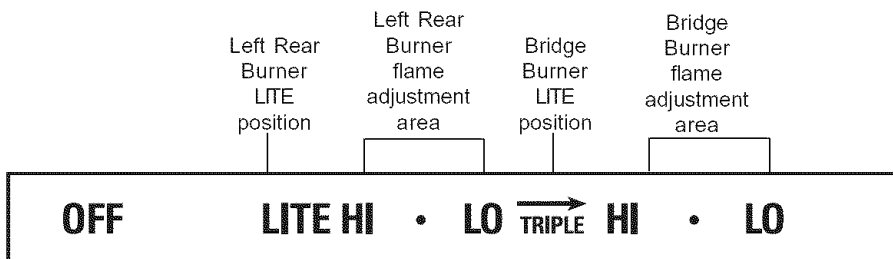

Fig. 3 - Bridge Burner Surface Control Knob markings (rear & middle burner portions).
6. When both burners are lit, continue to turn the control knob **counterclockwise** to adjust to the desired flame size for both burners together. NOTE: The markings between the **2nd HI** and **LO** settings on the middle rear control knob adjust the flame size for both burners together. Use the guide marks between the 2nd HI and LO settings and adjust the flame size as needed (Refer to Fig. 3).
4. Visually check that the rear Bridge Burner has lit. Adjust the flame size by turning the control knob between the **first HI and LO settings** (See Fig. 3). **DO NOT** cook with the surface control knob in the LITE position (The electronic ignitor will continue to spark if the knob is remains in the LITE position).